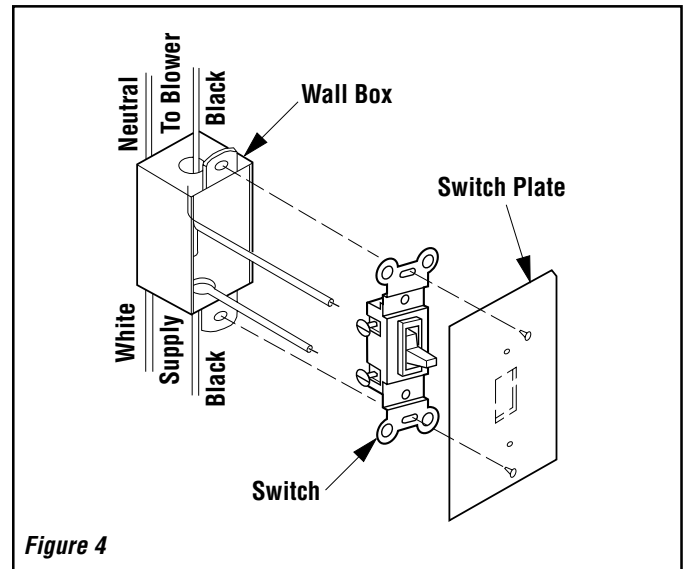

Figure 4
Step 5. Connect the wall switch (not provided with blower kit) to the supply wires in the wall receptacle box (*Figure 4*).